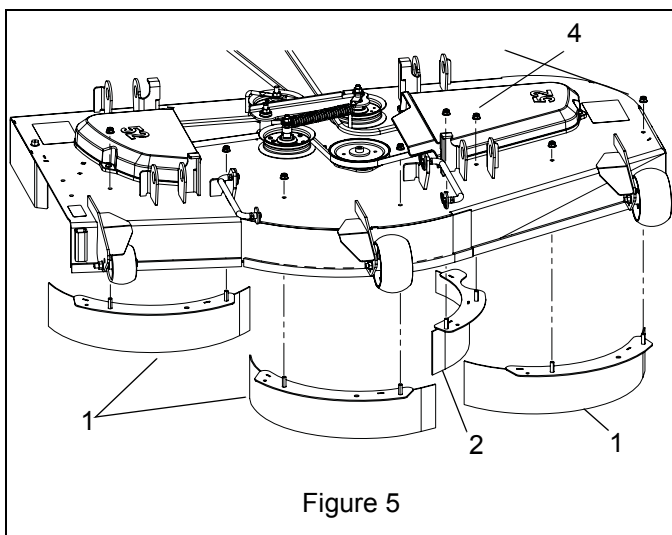

Figure 5
7. Install three universal baffles (item 1) and centre baffle (item 2) from underside of deck. Retain with eight 5/16" locking flange nuts (item 4). See Figure 5.